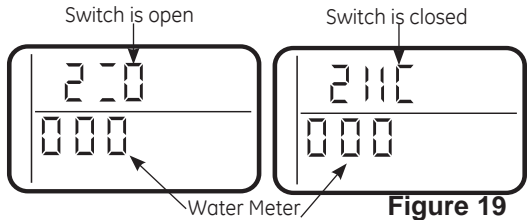

Figure 19
1. Press and hold **MODE/SET** for 3 seconds until the Set low salt alarm display appears, next press the **MODE/SET** button five additional times until "000" shows in the display, then release, (see Figure 19).
3. Symbols in the display indicate POSITION switch operation, (see Figure 19).